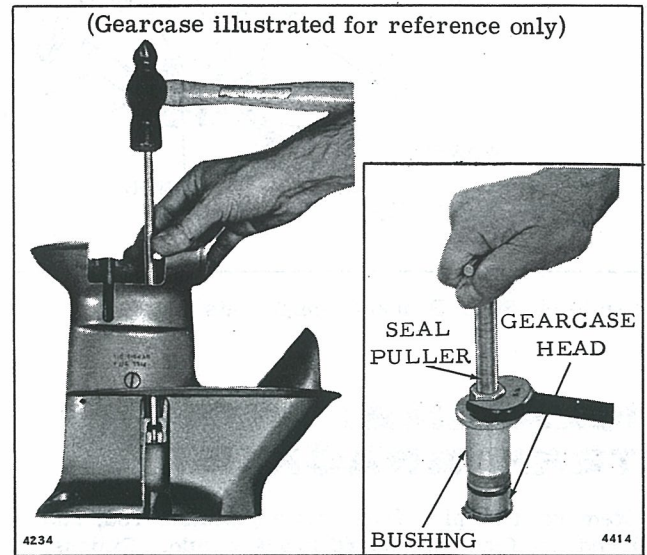

Figure 6-12. Driving Out Shift Rod Seal and Bushing
head, using Seal Puller (Special Tool #377565). Discard seals. See Figure 6-12 insert.
h. Drive out shift rod bushing and "O" ring from bottom to top of upper gear housing, using Bushing Punch (Special Tool #304514). See Figure 6-12.